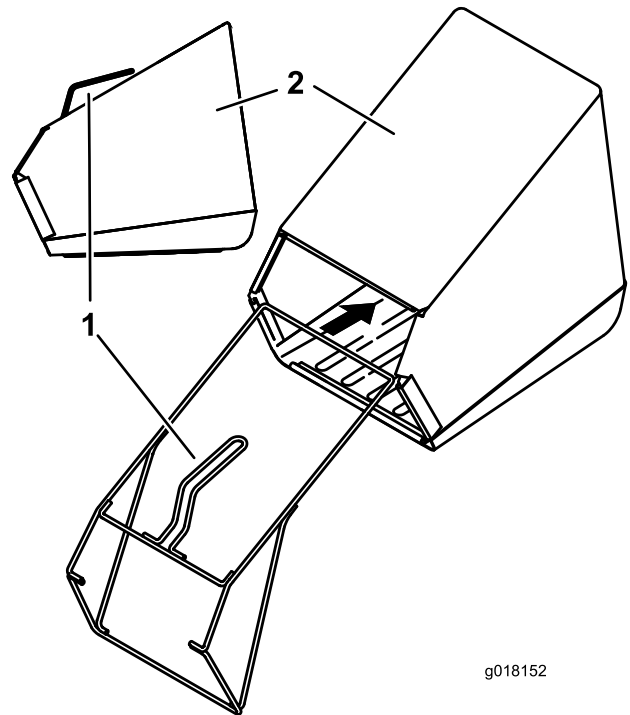

Figure 4
1. Insert the frame into the grass bag, keeping the handle above the grass bag (Figure 4).